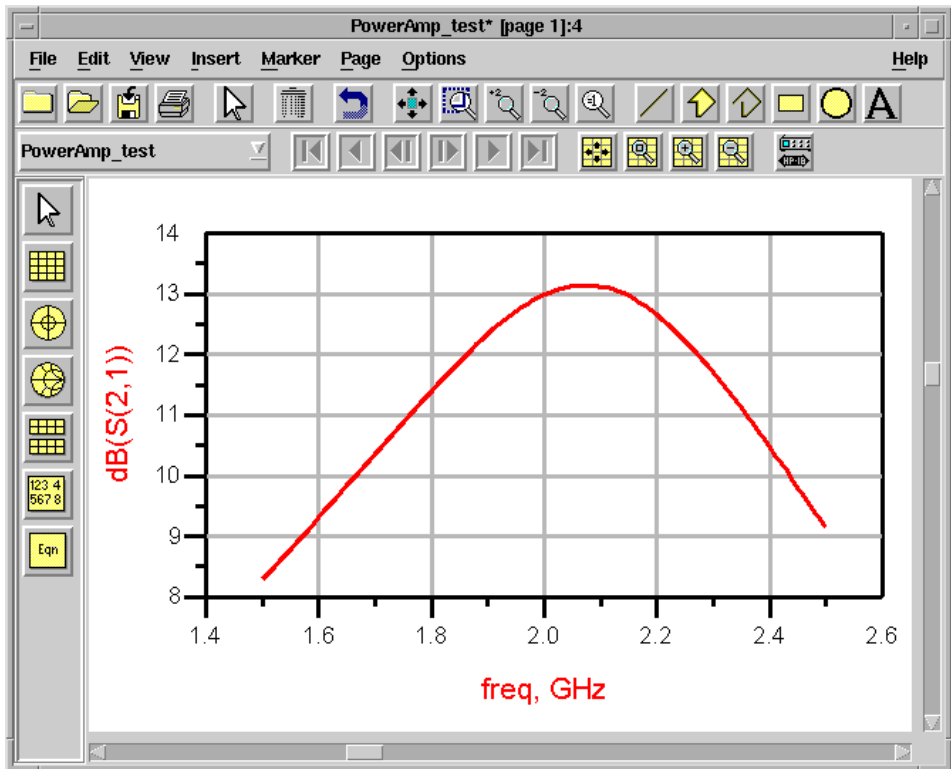

Figure 7-1. Data Display with S(2,1) of the *PowerAmp_test* Design.
1. Follow the steps listed in “Performing an S-parameter Simulation” on page 3-24 in the Chapter 3, Getting Started Tutorial. Plot S(2,1) in the ADS Data Display window after ADS S-parameter simulation is completed. The S(2,1) plot should resemble Figure 7-1.